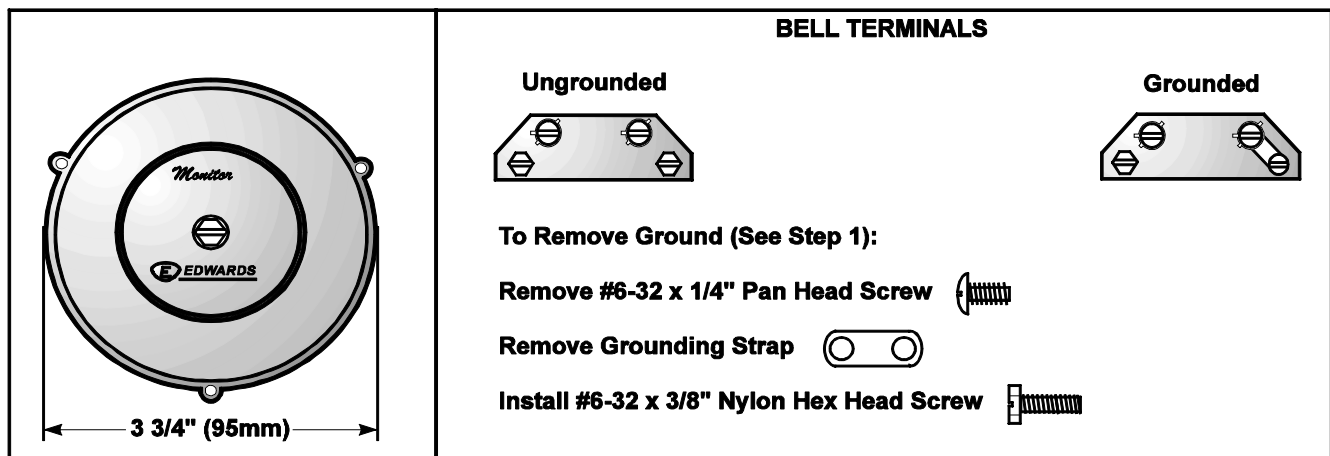

Figure 1.
- If grounding is not required, remove the grounding strap from the back of the bell as follows (See Figure 1):
- Replace the pan head screw removed in Step 1a with (1) #6-32 x 3/8" nylon hex head screw (supplied).